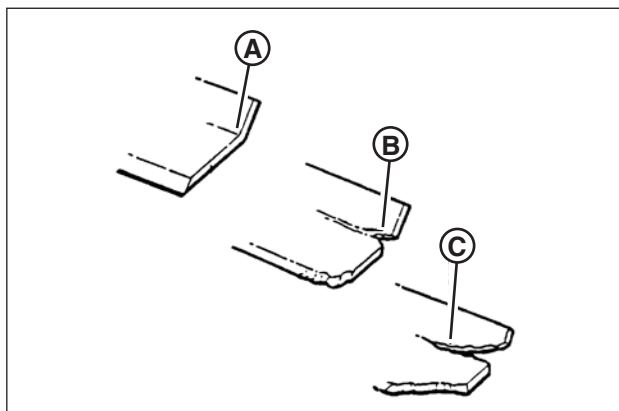

Figure 19: Standard blade wear limits
1. Inspect the blade (**Figure 19**) frequently for signs of excessive wear or damage: